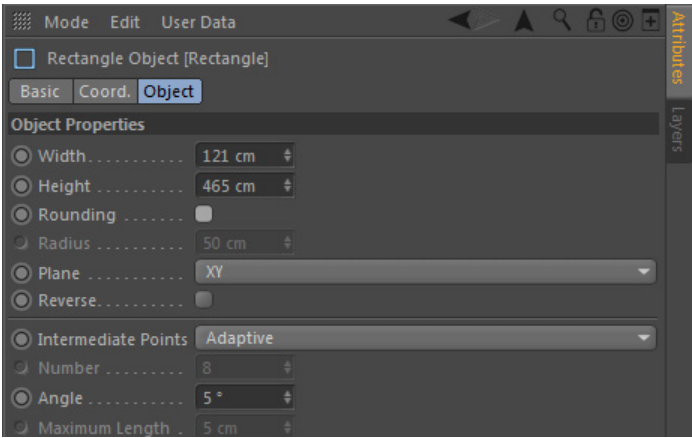

Figure 2-6 Setting the width and height of the rectangle
- 2. Make sure that *Rectangle* is selected in the Object Manager. In the Attribute Manager, make sure the **Object** button is chosen and then enter **121** and **465** in the **Width** and **Height** spinners, respectively, of the **Object Properties** area, refer to Figure 2-6.